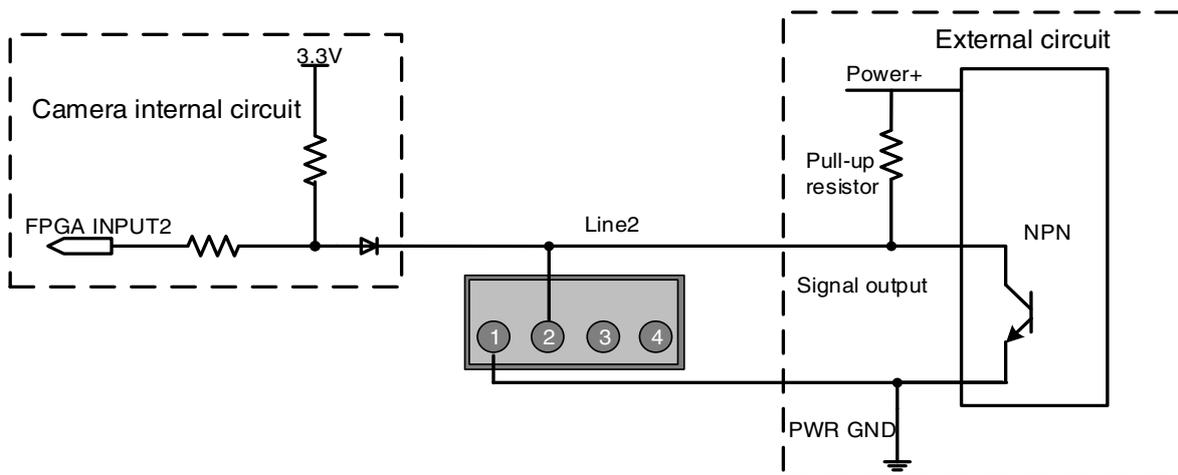
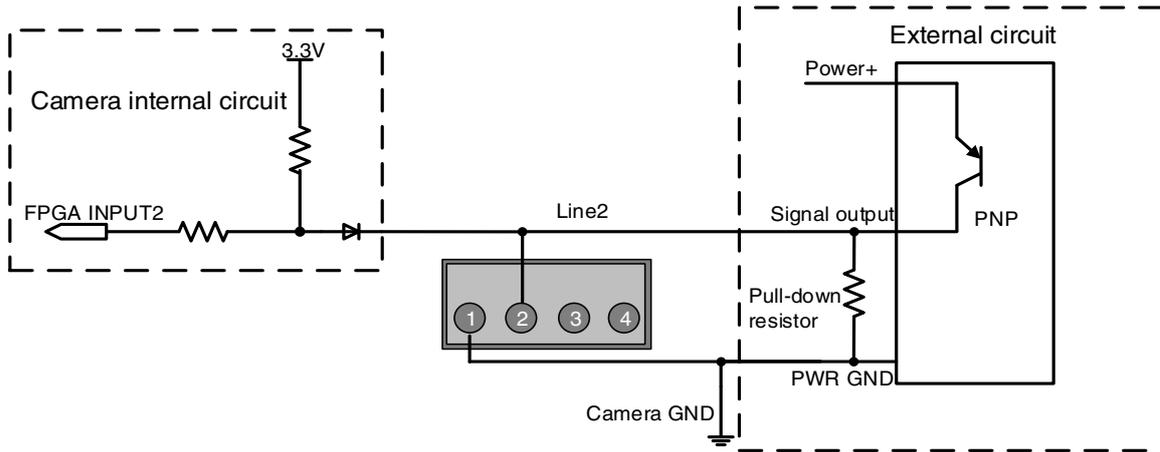

Figure 7-16 NPN photoelectric sensor connected to Line2 input circuit
Figure 7-17 PNP photoelectric sensor connected to Line2 input circuit
- When input of Line2/3 is high, input current is lower than 100μA. When input of Line2 is low, input current is lower than -1mA. The connection method between Line2/3 input circuit and NPN/PNP photoelectric sensors is shown in Figure 7-16 and Figure 7-17. The relationship between the pull-up resistor value and the external input voltage is shown in Table 7-9